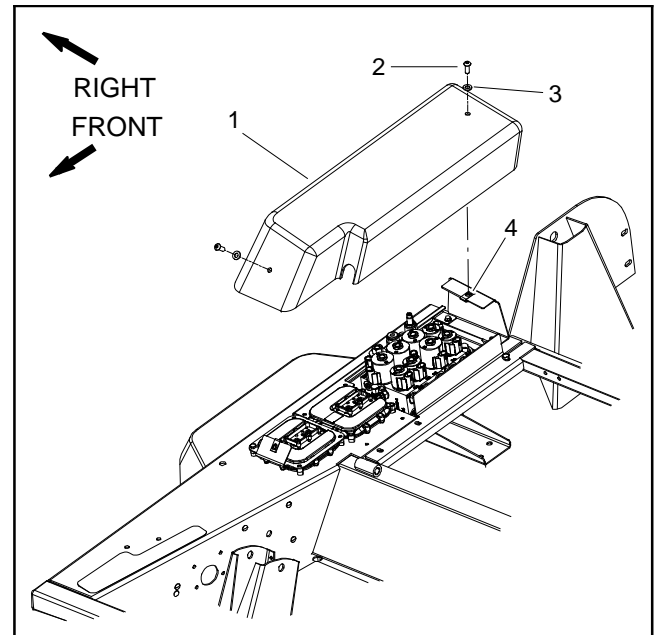

Figure 45
1. Make sure hydraulic oil is at normal operating temperature by operating the machine under load for approximately ten (10) minutes. Make sure the hydraulic tank is full.
3. Remove controller cover to gain access to lift/lower manifold (Fig. 45).